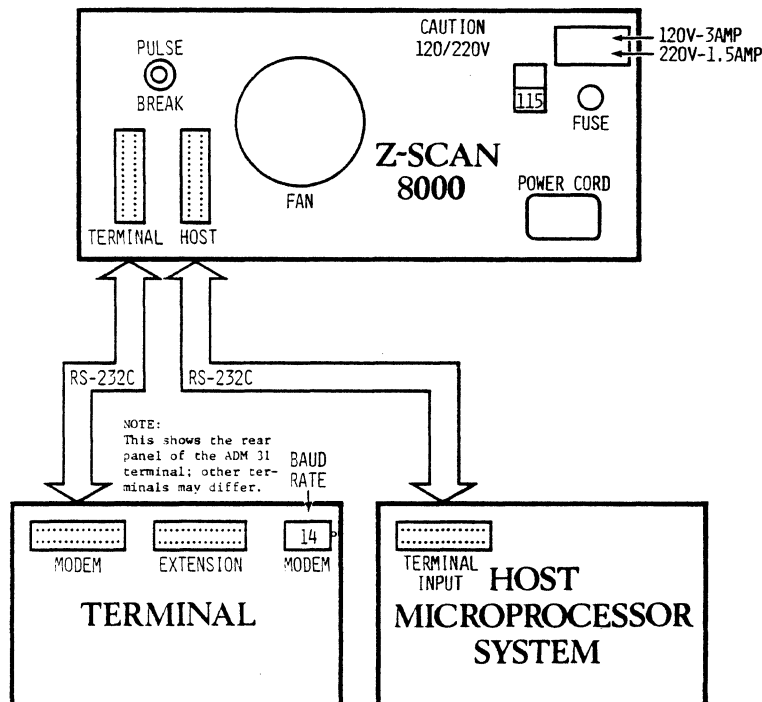

Figure 3-8. Z-SCAN/Terminal/Host Configuration
2. Connect the host system terminal cable to the RS-232C connector on the rear panel of Z-SCAN that is marked "Host". Figure 3-8 illustrates the proper connections. Table 3-3 lists the socket to which the terminal cable should be attached on Zilog host systems.